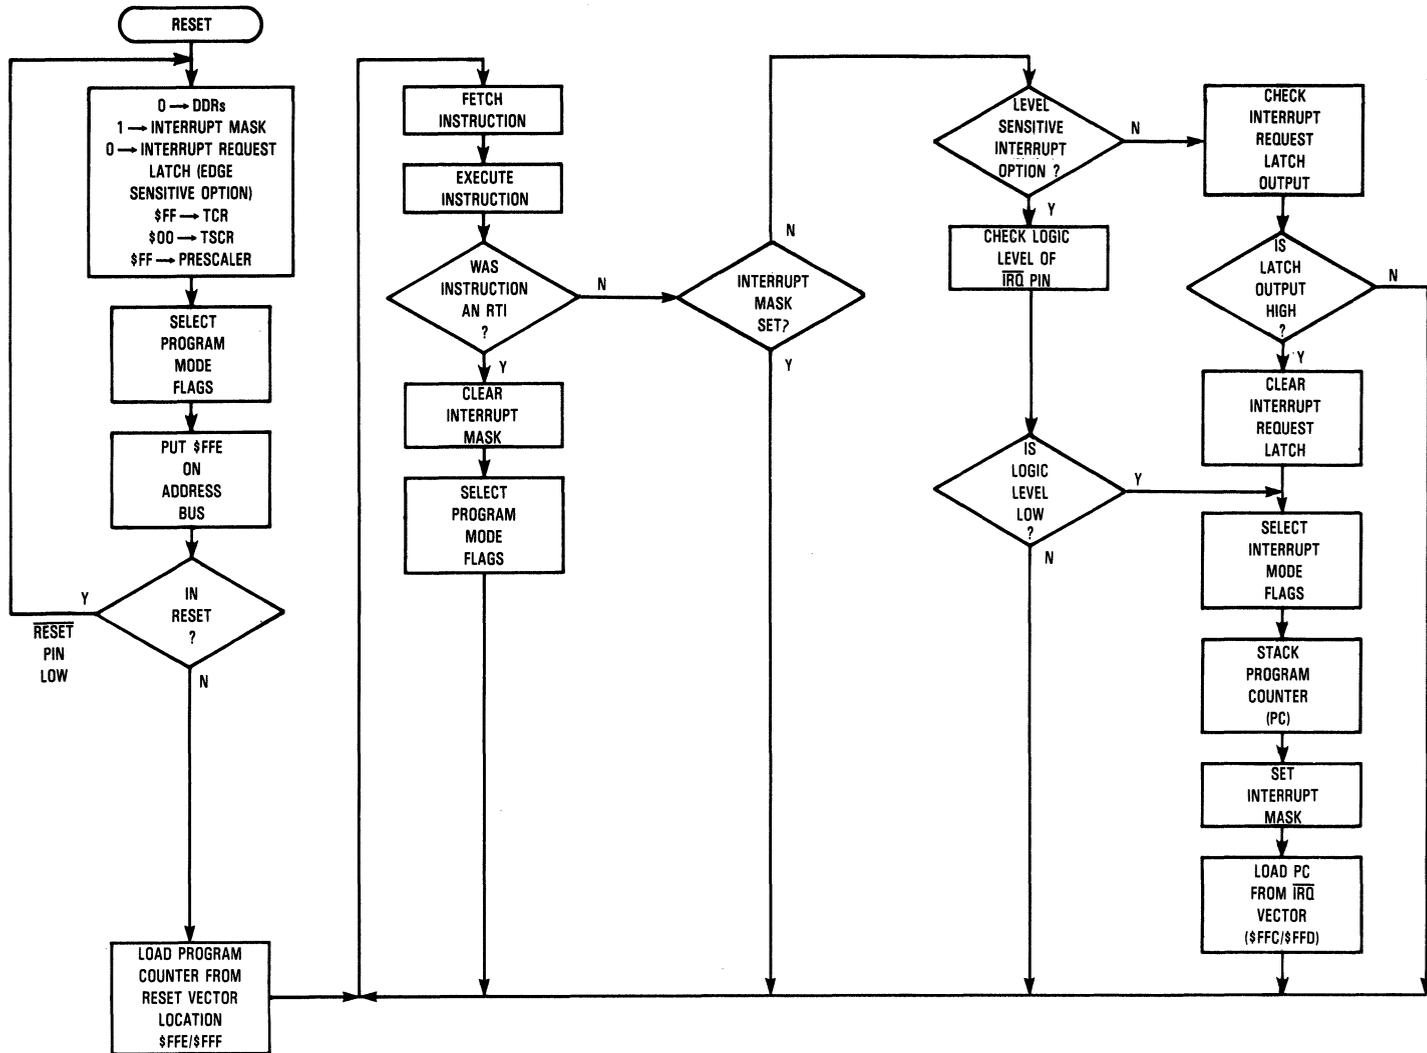

Figure 4-1. Reset and Interrupt Processing Flowchart
When the $\overline{\text{IRQ}}$ pin is pulled low, the internal interrupt request latch is set. Prior to each instruction fetch, the interrupt request latch is tested and, if its output is low, an interrupt sequence is initiated at the end of the current instruction (provided the interrupt mask is cleared). Figure 4-1 contains a flowchart which illustrates both the reset and interrupt sequence. The interrupt sequence consists of one cycle during which: the interrupt request latch is cleared, the interrupt mode flags are selected, the PC is saved on the stack, the interrupt mask is set, and the $\overline{\text{IRQ}}$ vector jump address (single chip mode = \$FFC/\$FFD, self-test mode = \$FF8/\$FF9) is loaded into the PC. Note that the contents of these locations are not inherently decoded as an address to which program control (PC) should jump to, but instead are decoded like any other ROM word. It is therefore essential that the vector contents specify a JMP instruction in addition to the starting address of the interrupt service routine. This routine should save the values of the accumulator, and X and Y registers, if required, since the values will not be stored on the stack. Internal processing of the interrupt continues until an RTI (return from interrupt) instruction is processed. During the RTI instruction, the interrupt mask is cleared and the program mode flags are selected. The next instruction of the program is then fetched and executed. Once the interrupt was initially detected and the interrupt sequence started, the interrupt request latch is cleared so that the next (second) interrupt may be detected even while the previous (first) one is being serviced. However, even though the second interrupt sets the interrupt request latch during processing of the first interrupt, the second interrupt sequence will not be initiated until completion of the interrupt service routine for the first interrupt. Completion of an interrupt service routine is always accomplished using an RTI instruction to return to the main program. The interrupt mask (which is not directly available to the programmer) is cleared during the last cycle of the RTI instruction.
The actual operation of the level-sensitive and edge-sensitive options are similar except that the level-sensitive option does not have an interrupt request latch. With no interrupt request latch, the logic level of the $\overline{\text{IRQ}}$ pin is checked for detection of the interrupt. Also, in the interrupt sequence, there is no need to clear the interrupt request latch. These differences are illustrated in the flowchart of Figure 4-1.
The MCU can be reset in two ways: by initial power up (see Figure 4-1) and by the external reset input (RESET). During power up, a delay of t_{RHL} is needed before allowing the RESET input to go high. This time delay allows the internal clock generator to stabilize. Connecting a capacitor and resistor to the RESET input, as shown in Figure 4-5, typically provides sufficient delay.